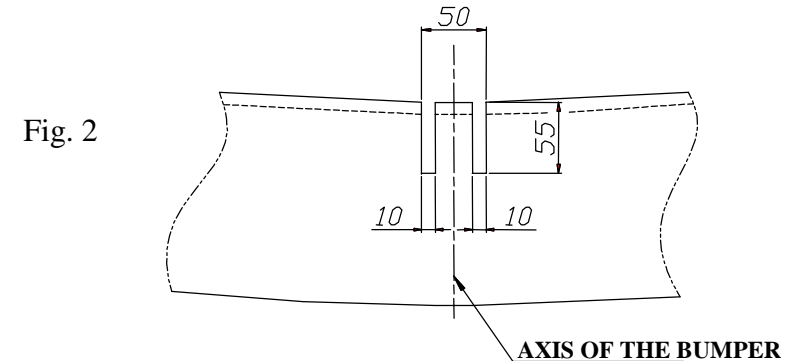

Fig. 2
4. Reassemble the bumper after cut out its fragments according to figure 2.
5. Fix tow-ball (pos. 2) with socket plate (pos. 3) using bolts M12x75mm (pos. 4) from accessories.